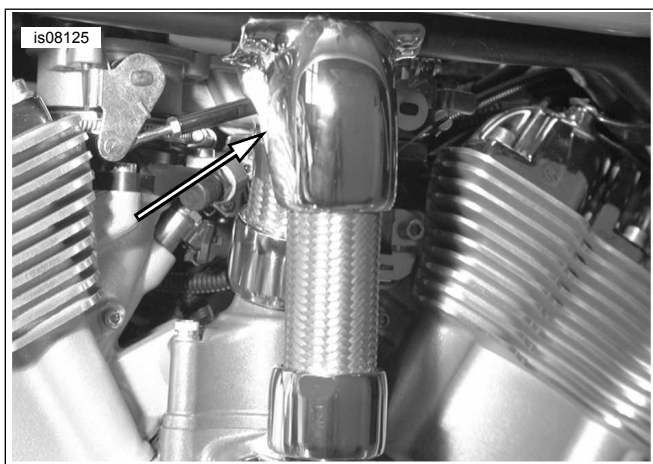

Figure 6. Install Upper Clamp and Cover
20. See Figure 6. Install upper hose clamp with decorative cover (removed in Step 2) and align so cover is straight. Tighten hose clamp securely.